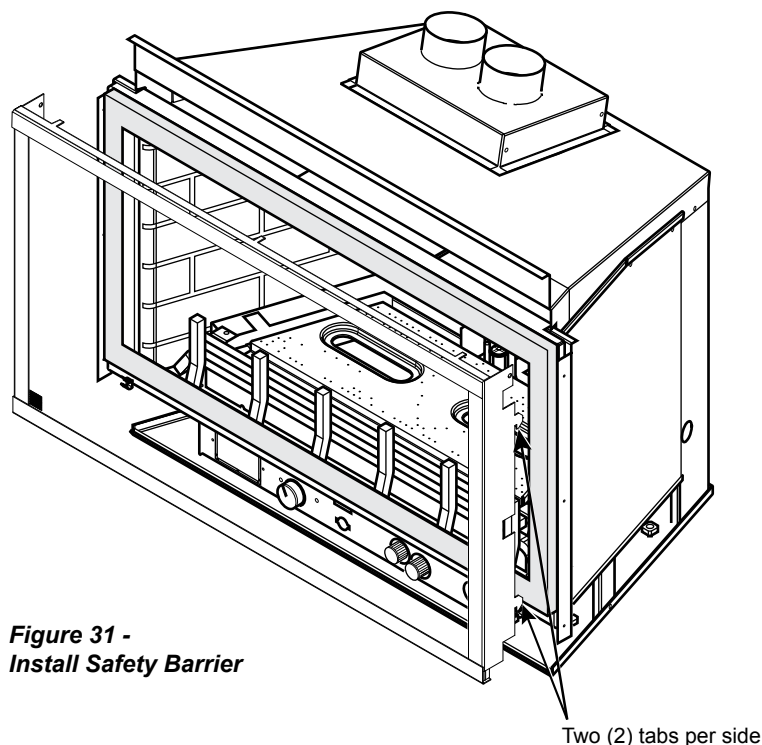

**Figure 31 -
2. Align the four tabs on the sides of the screen frame (two top, two bottom) with the corresponding slots on the firebox. *Figure 31.*